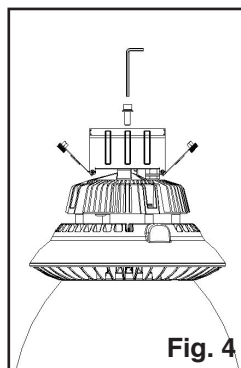

Fig. 4
4. Align the junction box to the led driver hole. Note that the box positioning bayonet ribs align with the driver ribs, and then use of the corresponding hexagonal screw to lock the box on the driver. Please refer to Figure 4.